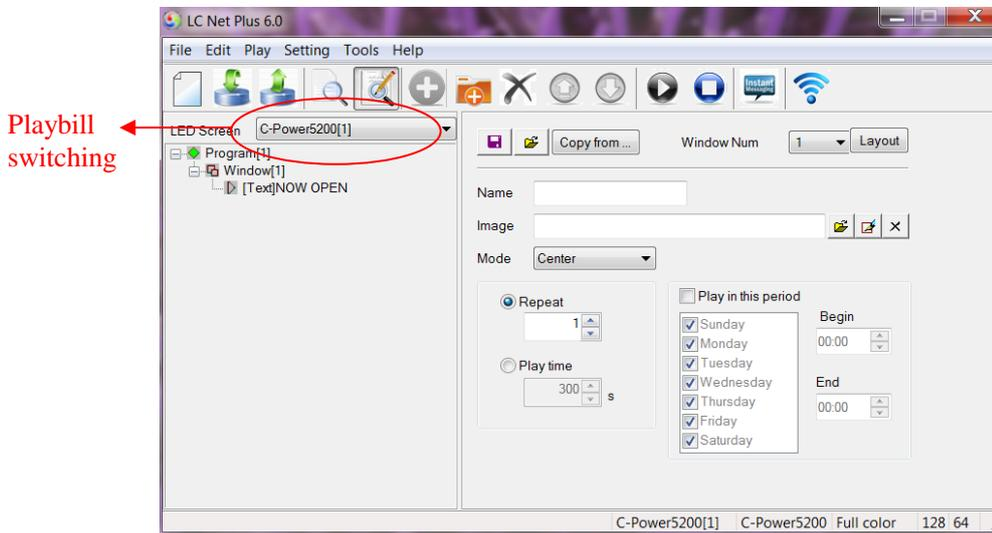

Figure10 Switching message display screens
- The various **messages** display screens are as shown in Figure10.